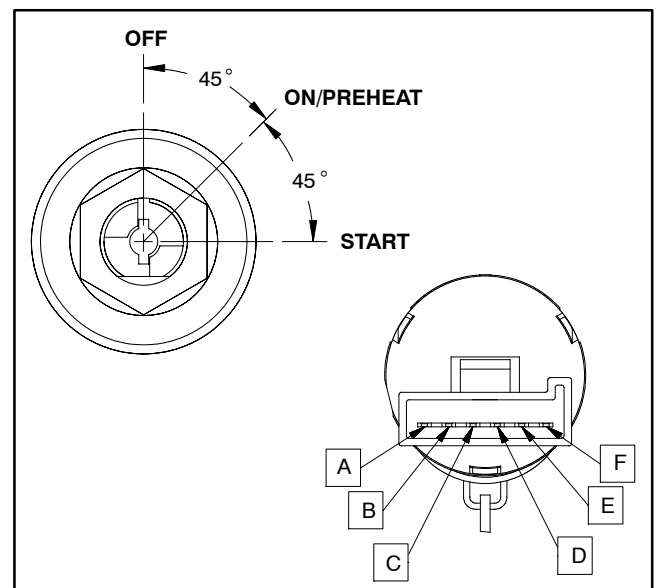

Figure 32
4. With the use of a multimeter (ohms setting), the switch functions may be tested to determine whether continuity exists between the various terminals for each ignition switch position. The ignition switch terminals are marked as shown in Figure 32. The circuitry of this switch is shown in the chart below. Verify continuity between switch terminals.